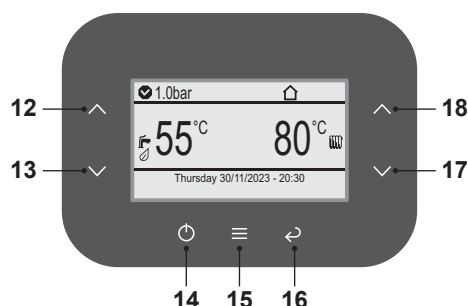
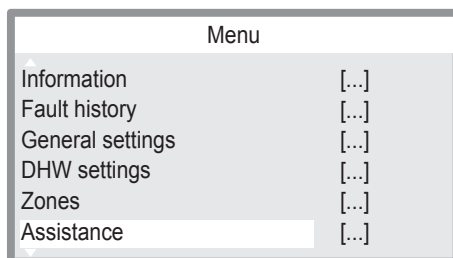
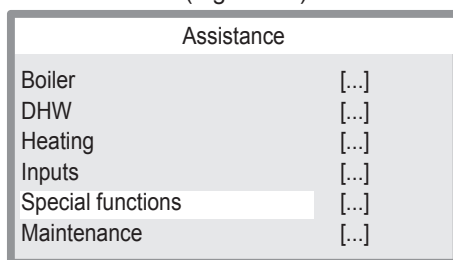
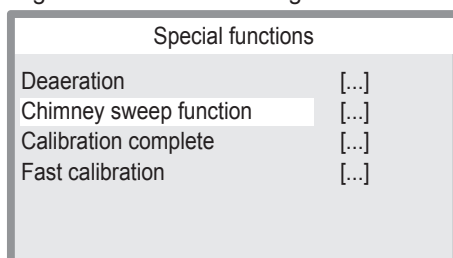

Fig. 10.21
Fig. 10.23
Fig. 10.24
Fig. 10.25
- Press key 15 (Fig. 10.21) to go to the main menu (Fig. 10.22).
- Press key 12 or 13 (Fig. 10.21) to select the desired menu (Fig. 10.23).
- Press key 15 (Fig. 10.21) to access the selected menu (Fig. 10.24).
- Press key 12 or 13 (Fig. 10.21) to select the desired menu from those available (Fig. 10.25).
- Press key 15 (Fig. 10.21) again to highlight the value to be changed.
- Press key 12 or 13 (Fig. 10.21) to select the desired menu from those available (Fig. 10.26).
- Press key 15 (Fig. 10.21) to confirm the change or key 16 to exit without changing the value (return to previous level).